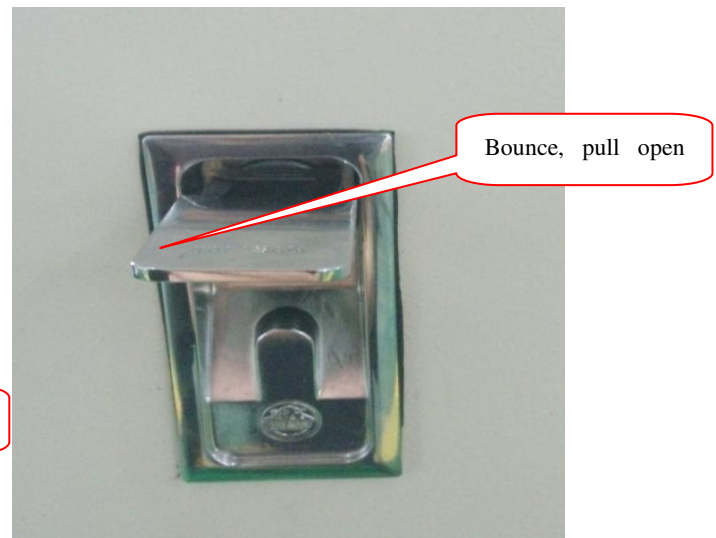

Figure 1 Figure 2
① **Electrical box door** : Figure 1 ----- Figure 2